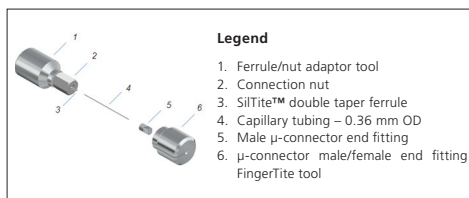

Figure 1. Exploded diagram of the first stage of the  $\mu$ -Union connector installation.
2. Referring to Fig 1, locate the Ferrule/nut adaptor tool (1) and connection nut (2). Screw the nut onto the tool – the internal thread of the nut is designed to allow the male end fitting to swage the double taper ferrule.